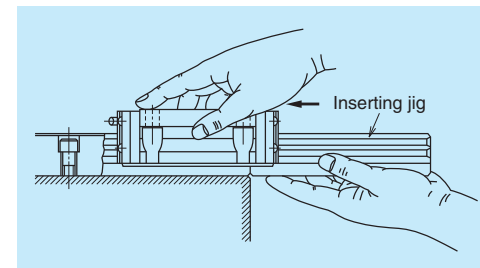

Fig. 10.27
- If it is unavoidable to remove slides from the rail, make certain to use a provisional rail (a jig used to insert a slide to the rail) as shown in Fig. 10.27.